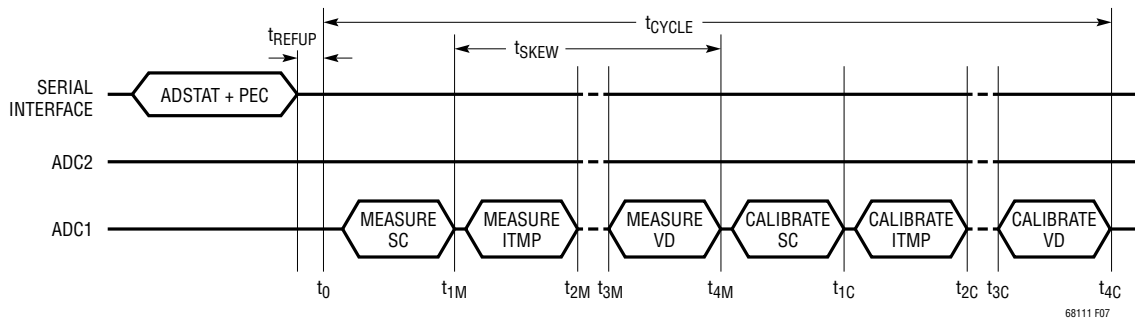

Figure 7. Timing for ADSTAT Command Measuring SC, ITMP, VA, VD
of All Cells (SC), Internal Die Temperature (ITMP), Analog Power Supply (VA) and the Digital Power Supply (VD). These parameters are described in the section below. All the 8 ADC modes described earlier are available for these conversions. See the section on Commands for the ADSTAT command format. Figure 7 illustrates the timing of the ADSTAT command measuring all 4 internal device parameters.